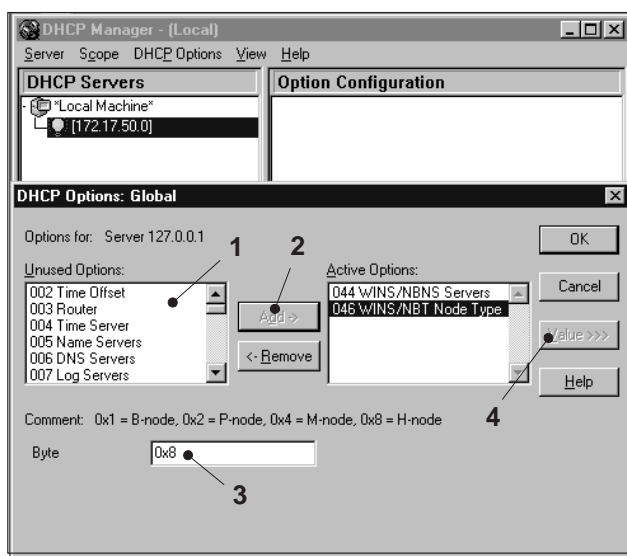

Fig. 12 DHCP Options, WINS/NBT
- 46 In the window "DHCP Options: Global" click on the option **046 WINS/NBT Node Type** (Fig. 12/1).
- 47 Click on the **Add** button (Fig. 12/2).
- 48 Click on the **Value** button (Fig. 12/4).
- 49 In the line Byte, enter **0x8** (Hybrid-node, Fig. 12/3).